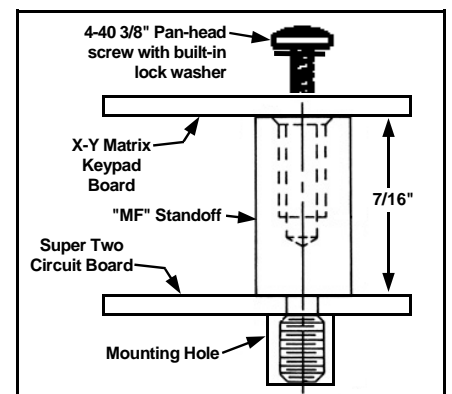

Fig. 3: 7/16" "Screw-on" type standoff.
3. **Insert the metal standoffs into the SUPER TWO® main board.** See Figures 3 and 4. The three holes into which you will screw in the standoffs (1/4" drive) are located near the top right corner of the main board. **Note:** The standoffs are screwed into the main board and also into housing threads located behind main board; therefore it may be necessary to slightly loosen the 4 main board mounting screws to allow the main board holes to align with the housing threads.